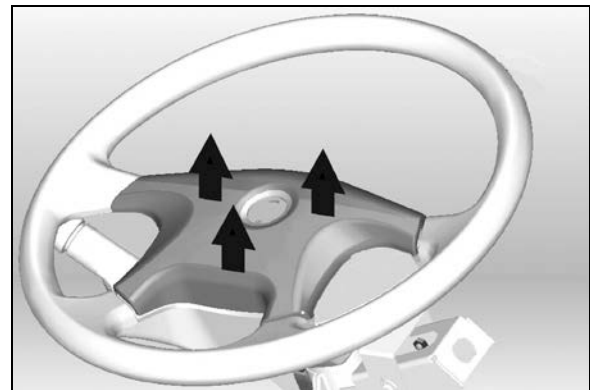

FIGURE 9: REMOVING THE HORN PAD
2. Pull the horn pad straight up gently to detach it from the steering wheel (Fig. 9).